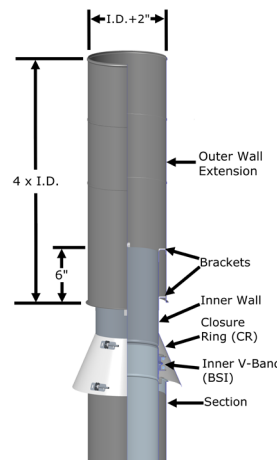

Figure 71a - No Loss Cap (NLC) installed or I.D. from 5" to 13"
larger outer wall (I.D. +2") that has a height of 4 times the flue diameter and is open at the bottom. The Closure Ring (CR) must be seal to the inner wall with outer Sealant S-375. Rain water that falls into the larger wall washes down the side of the larger chimney and discharges at the bottom. See Figure 71a.
For I.D. from 5" to 13", the No Loss Cap is an integral component that attaches to the chimney flue using a standard inner V-Band (BSI) (See JOINT ASSEMBLY Section). For Models CAX1, CIX1, CIX2 and CIX4, a Closure Ring (CR) is provided to protects the insulated space between standard pipe inner and outer. See Figure 71a.